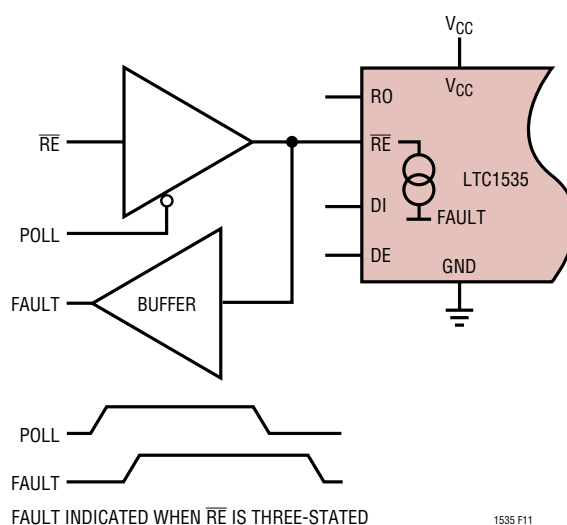

Figure 11. Detecting Fault Conditions
**$\overline{\text{RE}}$  (Pin 27):** Receive Data Output Enable TTL Input. A low level enables the receiver. This pin also provides a fault output signal. (See Figure 11.)
The  $\overline{\text{RE}}$  pin has a weak current drive output mode for indicating fault conditions. This fault state can be polled using a bidirectional microcontroller I/O line or by using the circuit in Figure 11, where the control to  $\overline{\text{RE}}$  is three-stated and the fault condition read back from the  $\overline{\text{RE}}$  pin. The weak drive has 100 $\mu\text{A}$  pull-up current to indicate a fault and 50 $\mu\text{A}$  pull-down current for no fault. This allows the  $\overline{\text{RE}}$  pin to be polled without disabling  $\overline{\text{RE}}$  on nonfault conditions.